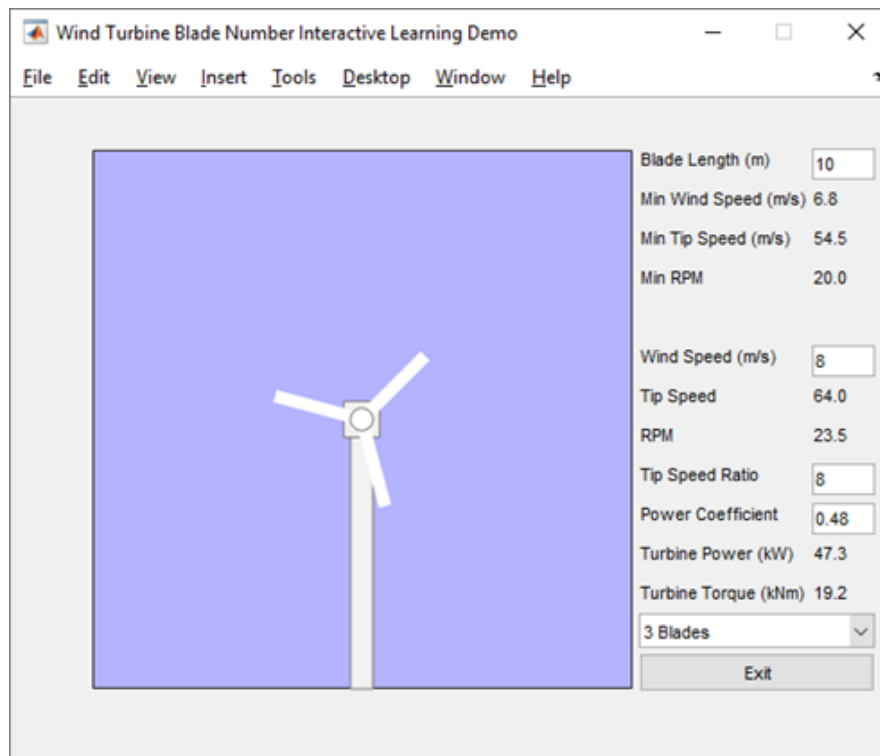

Figure3.2 : Wind turbine simulator model
3. Fig. 3.2 shows the MATLAB simulator for the wind turbine model.